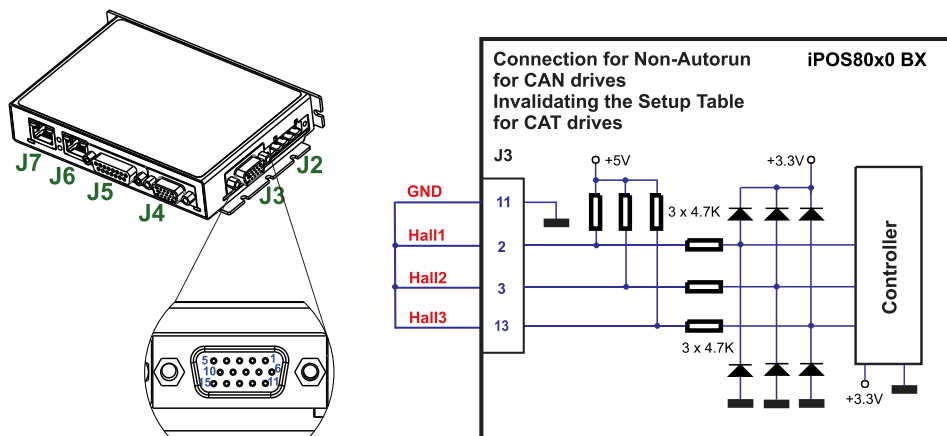

Figure 3.29. Temporary connection during power-on to remove the drive from Autorun mode or disable Setup
- Hardware2 – by temporary connecting all digital Hall inputs to GND, during the power-on for about 1 second, until the green LED is turned on, as shown in **Figure 3.29**. This option is particularly useful when it is not possible to communicate with the drive.
To recover from this behavior, the setup table can be invalidated by connecting all digital Hall inputs to GND, as shown in Figure 3.29.